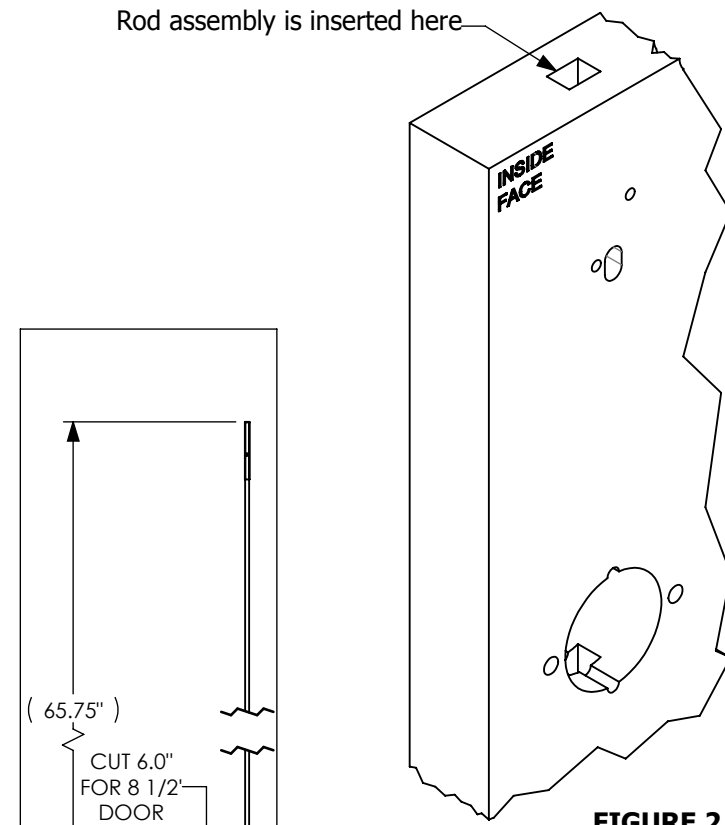

FIGURE 2
4. INSERT entire rod assembly through the opening in the top of the door (Figure 2).